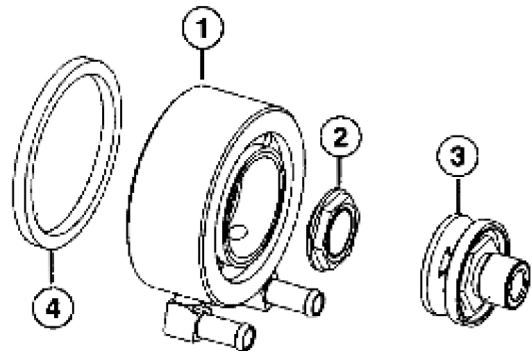
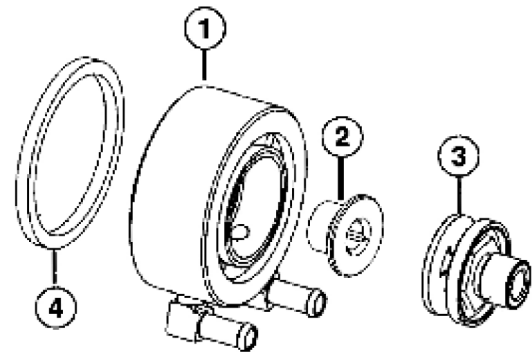

Figure 1
Figure 2
1. Remove the Jagg 4400 oil filter adapter lock nut (Figure 1, Item 2).
3. Place the male end of the NUT4400-U (Figure 2, Item 2) through the hole in the oil filter adapter body (Figure 1, Item 1).